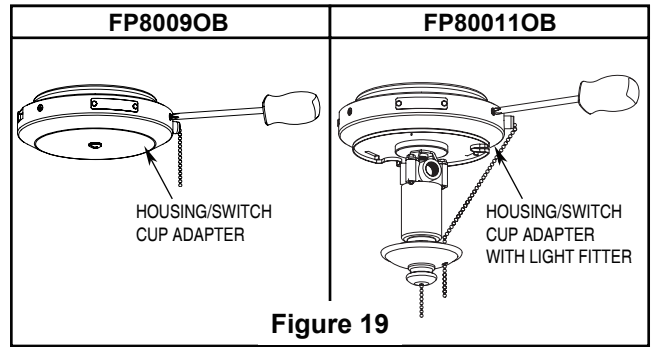

Figure 19
- 1. Disassemble the housing/switch cup adapter assembly by removing three screws. (Figure 19)